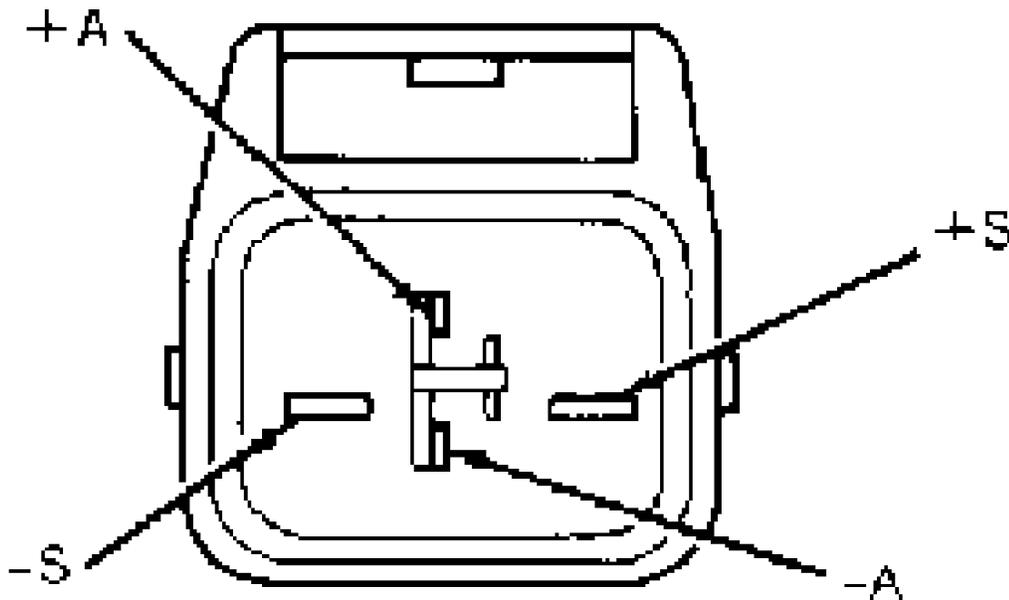

Fig. 13: Front Air Bag Sensor Connector Terminal ID
9) Disconnect front air bag sensor connector. Measure resistance between terminals +S and +A (755-885 ohms), +S and -S (infinite ohms), and -S and -A (less than one ohm). See Fig. 13. If resistance is not to specification, replace front air bag sensor. If resistance is okay, repair or replace harness or connector between center air bag sensor assembly and front air bag sensor.
5) Disconnect front air bag sensor connector. Measure resistance between front air bag sensor terminals +S and +A (755-885 ohms), terminals +S and -S (infinite ohms) and terminals -S and -A (less than one ohm). See Fig. 13. If resistances are not to specification, replace front air bag sensor. If resistances are okay, go to next step.